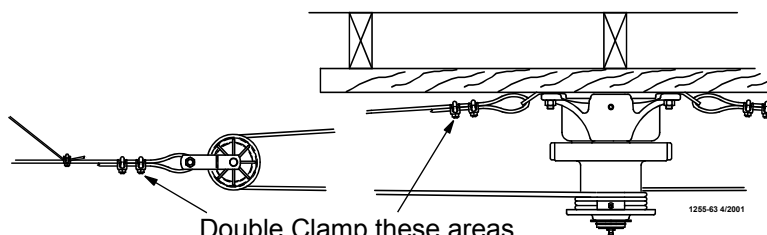

Figure 9. Double back arrangement for feed lines over 350' [107 m]
3. Extend the 3/16" [5 mm] Main Winch Cable the full length of the feeder line. Attach the cable temporarily to the ceiling with nails, staples, or some type of fasteners. Figure 9 "Figure 9. Double back arrangement for feed lines over 350' [107 m]" on page 11 shows a double back arrangement for feed lines over 350' [107 m].